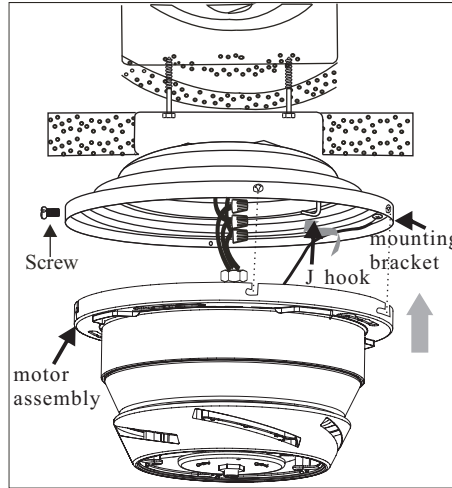

Figure 9
1. Remove motor assembly from "J" hook. Attach 3 tumbler bolts (in the loose parts bag) to the mounting bracket, do not tighten. Align slotted holes on plate at top of motor assembly with 3 tumbler bolts on mounting bracket. Twist motor assembly to lock. (Figure 9)
2. Place the key hole, tighten the last one tumbler bolt, along with the star washer and tighten other 3 tumbler bolts securely. (Figure 9)